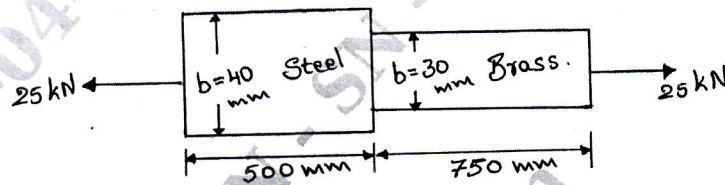

Fig.Q1(b)
- b. A stepped bar made up of steel and brass is subjected to a pull of 25kN as shown in Fig.Q1(b). Determine the deformation of each material and stress in each material. Take, $E_s = 200\text{GPa}$, $E_B = 100\text{GPa}$. Thickness = 20cm.